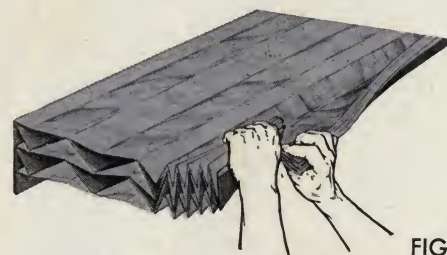

FIG. 4
2) Using shears or the hands, cut or tear the remaining unopened *mass* completely through, top to bottom. *See Fig. 4.*